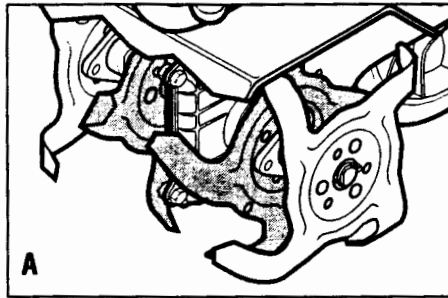

Figure 7: Tine patterns.
Wide (Standard) Tine Positions – As shipped from the factory, the unit is set up for general tilling and cultivating. This 10" wide tine pattern (the maximum tilling width) uses all four tine sections (A, Figure 7). See *Tine Removal and Installation* in Section 5 for detailed information on how to set up this tine position.
Narrow Tine Positions – For a narrow, 4-1/2" tilling width, remove the outside tine section on the left- and right-sides (B, Figure 7). See *Tine Removal and Installation* in Section 5 for detailed information on how to set up this tine position.
Stony Soil Tine Positions – When tilling deeply in stony soil, stones may become jammed between the inner tines and the machine hood. This setup swaps the two inner tines to minimize jamming (C, Figure 7). See *Tine Removal and Installation* in Section 5 for detailed information on how to set up this tine position.
4. It is important for proper tilling performance that the tine sections be later reinstalled in their original positions. Therefore, mark the position of each tine section (Left-Outer, Left-Inner, etc.) before removing them. Refer to Figure 7 for tine position information.